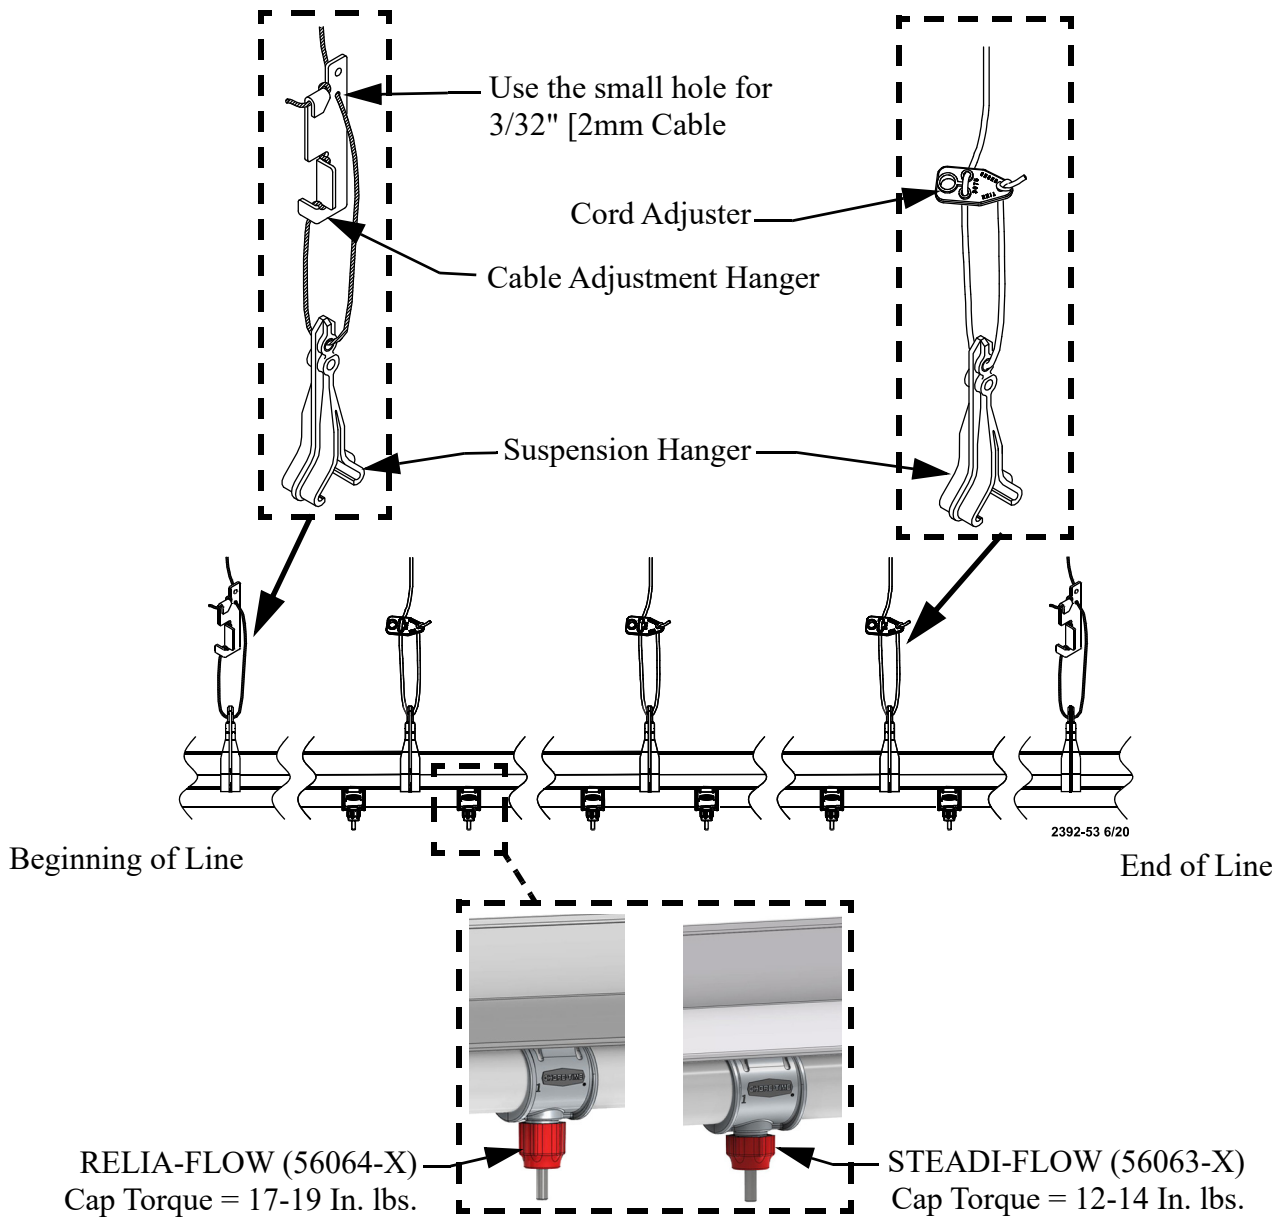

Figure 18. Suspend Water Lines
3. At the beginning and end of the system route the suspension cable through the top hole of the suspension hanger and around the Cable adjustment Hanger as shown in **Figure 18**. At all the other drops, use the Cord adjuster **as shown**.